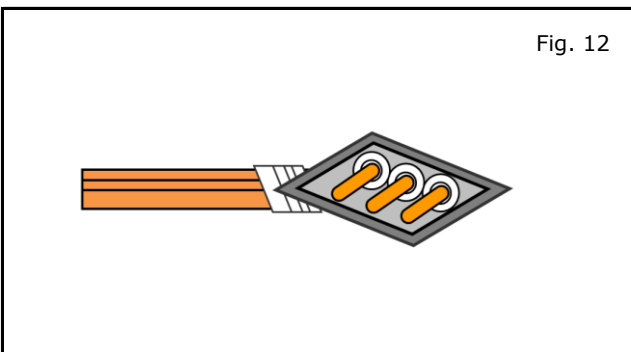

Fig. 12
a) Make sure the finished wrap looks similar to what is shown in Fig. 12.